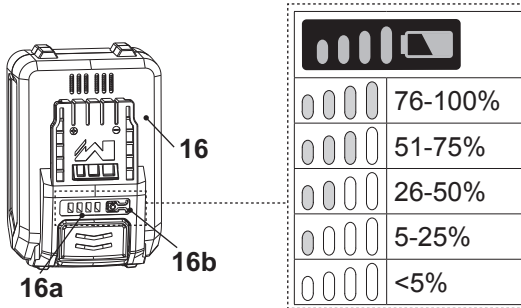

Fig. 4
The battery pack (16) is equipped with the battery capacity indicators (16a) which are used to give an indication of the battery pack's remaining capacity. Press the battery capacity button (16b) to check battery capacity (Fig. 4). The LEDs will stay lit for approximately 5 seconds.